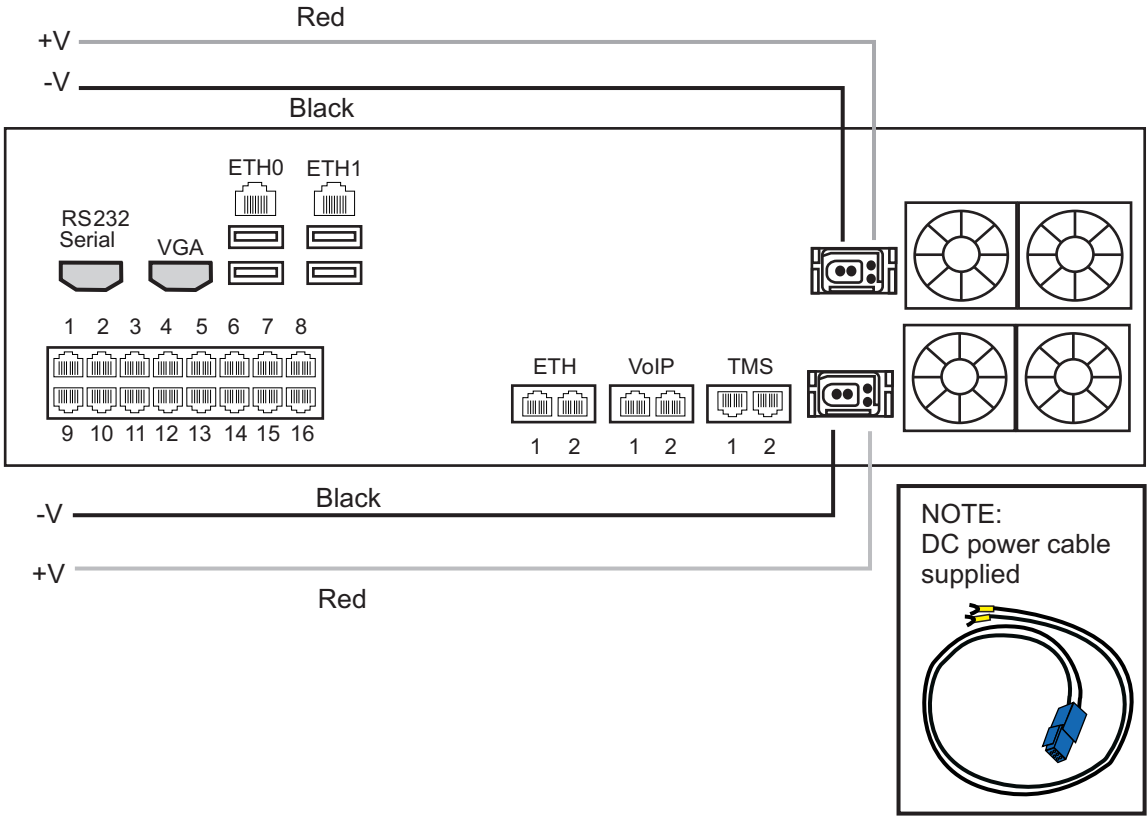

Figure 2.11 TMP5900 DC wiring diagram
1. Connect the DC cable supplied with the TMP5900, as shown in figure 2.11 on page 21, to the DC outlet at the rear of the TMP5900.
2. Connect one lead of the DC power cable to the positive terminal of the DC power source, as shown in figure 2.11 on page 21.